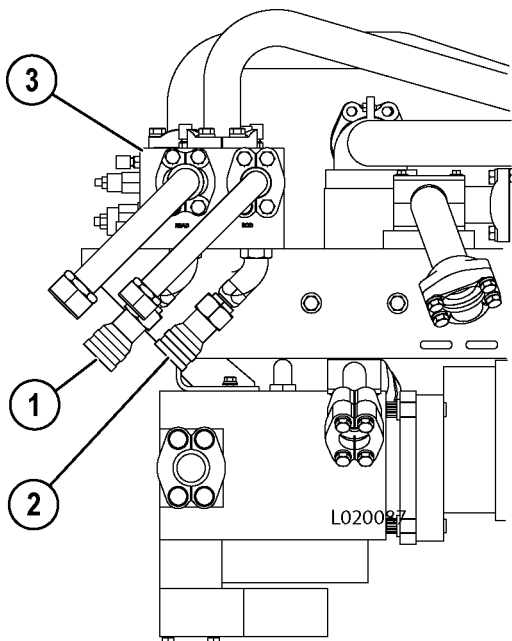

FIGURE 30-2. HOIST CONNECTIONS
Quick disconnect fittings (1 & 2, Figure 30-2) are provided on the overcenter valve to allow operation of the hoist circuit for temporary truck operation if the hoist pump, hoist valve or other hoist system component is not operational. This will allow maintenance personnel to raise the truck body to dump the load before moving the disabled truck.
In the example, Figure 30-2 illustrates a typical hookup from the good truck. The disabled truck may be another Model 830E, or a different Komatsu electric drive truck model.
1. With the good truck parked as close as possible to the disabled truck, attach a hose from the **power up** quick disconnect (1, Figure 30-2) to the **power down** circuit of the disabled truck. (Hose must be rated to withstand 17 237 kPa (2,500 psi) or greater pressure.
2. Connect another hose from the **power down** quick disconnect (2) to the **power up** circuit of the disabled truck.
*NOTE: If both trucks are a Model 830E, the hoses will be installed at the quick disconnects shown in Figure 30-2 and **will be crossed** when connected.*